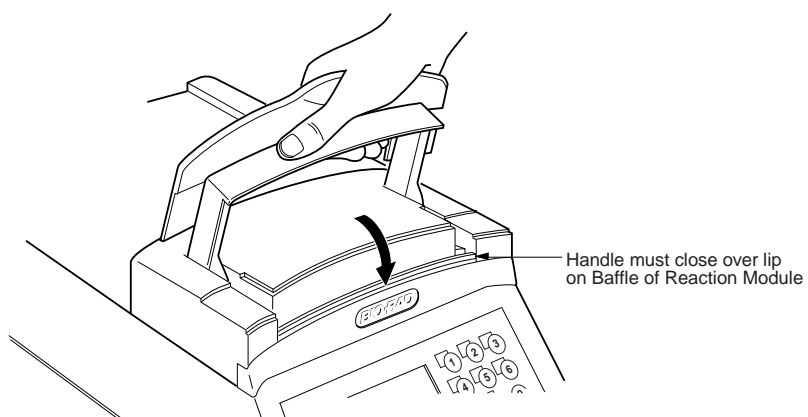

Fig. 1.7. Closing the iCycler Lid.
3. Slide the lid forward over the reaction block and lower the handle. Make sure that the handle closes securely over the lip of the baffle on the front of the reaction module (Figure 1.7).